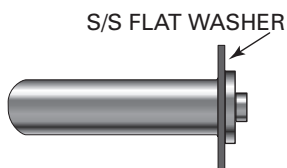

Figure 5
1. Slip the 7/16SAE S/S flat washer over the body of the Pull-Lock® fitting. (Figure 5)